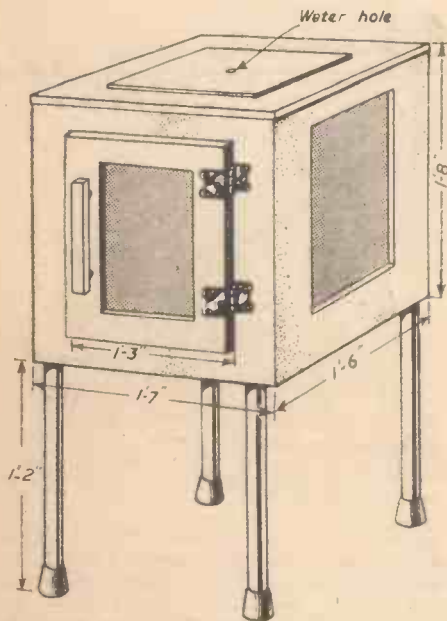

Fig. 1.—A perspective view of the completed food cupboard.
**T**HE outside must be made of red cedar, which is the only wood which will withstand water and not rot. Six frames are made up from  $3\frac{1}{2}$  in. x  $\frac{7}{8}$  in. wood, mortised and tenoned together. When assembling, the front and back are screwed to the sides and the top and bottom screwed on afterwards. Brass screws must be used. Dimensions of the assembled framework may be seen in Fig. 1.